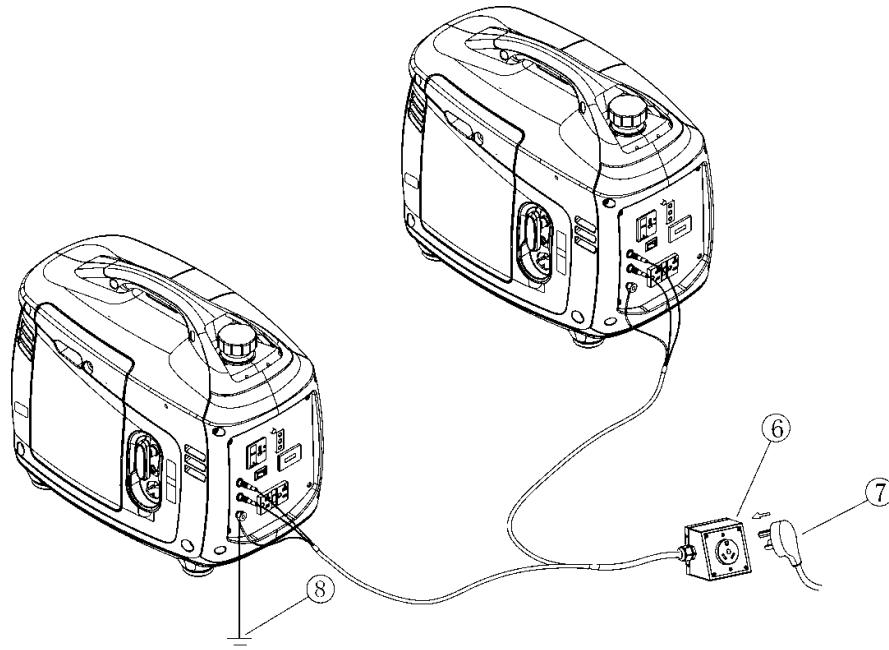

Figure 4
5. Insert the electrical equipment plug ⑦ into the parallel cable receptacle ⑥ and turn the power switch of the electrical equipment to the on position. (See figure 4)